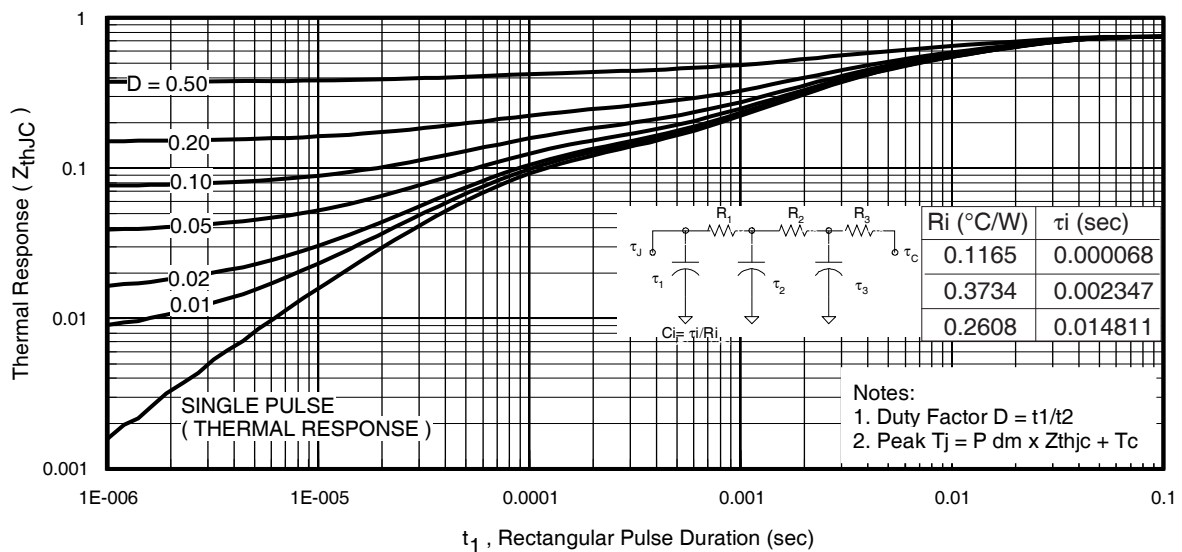

Fig 11. Maximum Effective Transient Thermal Impedance, Junction-to-Case
- ① Repetitive rating; pulse width limited by max. junction temperature. (See fig. 11).
- ② Limited by T_{Jmax} ; starting $T_J = 25^\circ\text{C}$, $L = 0.16\text{mH}$ ⑥
$Z_{thJC}(D, t_{av})$ = Transient thermal resistance, see figure 11)